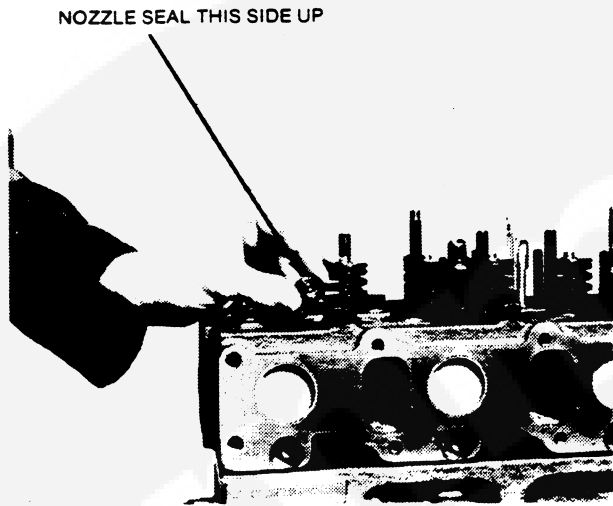

FIGURE 37. INJECTION NOZZLE SEALS
1. Place new injection nozzle seals in nozzle bore with concave side down (Figure 37). Do not reuse injection nozzle seals. They must be replaced whenever nozzles are removed. Install injection nozzles into cylinder head and tighten to the specified torque.